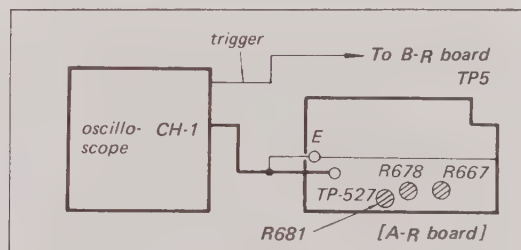

Fig. 8-7. Carrier balance adjustment test setup
1. Connect the scope to TP-527 on the A-R board. See Fig. 8-7.
3. Adjust R681 (See Fig. 8-7) for 1V (p-p).